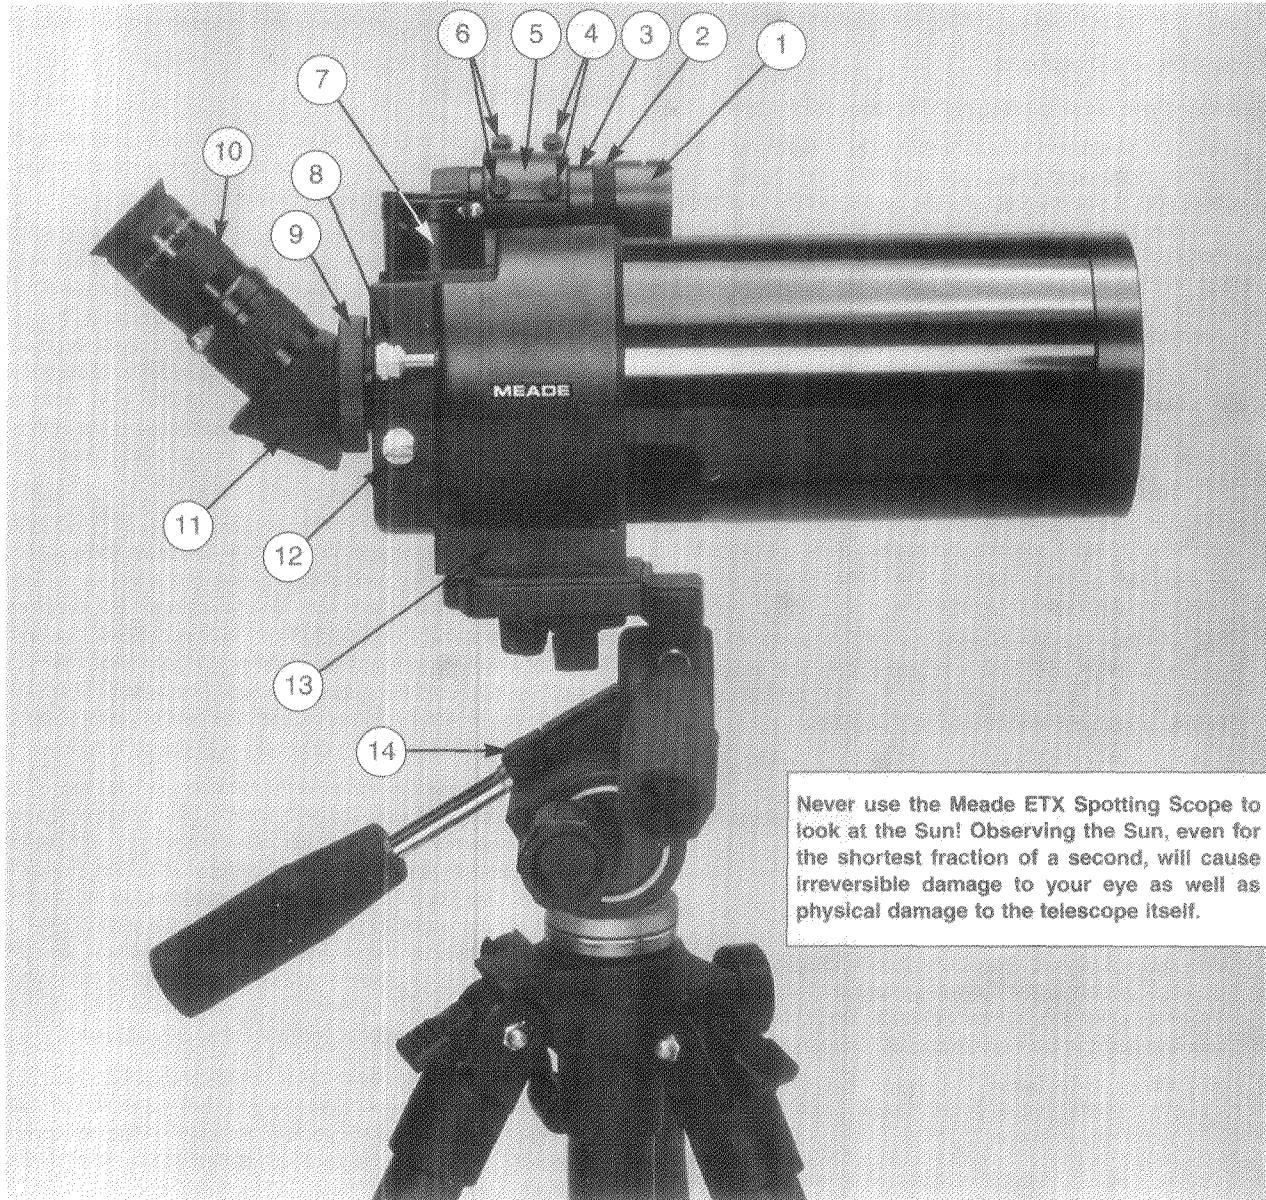

Fig. 19: The ETX Spotting Scope
1. Slide the viewfinder into its bracket (5), Fig. 19, with the rubber-eyecup-end of the viewfinder fitting first through the front end of the bracket. It may be necessary to slightly unthread the six alignment screws (4) and (6), Fig. 19, to fit the viewfinder into the bracket. With the viewfinder inside the bracket, tighten (*to a firm feel only*) the six alignment screws down against the viewfinder tube. Alignment of the viewfinder will be discussed in a later section of this manual.
2. Remove the #932 45° Erecting Prism from its packing box. After unthreading the Photo Port cover (6), Fig. 1, thread the knurled ring (9), Fig. 19, of the #932 Prism on to the Photo Port. "Firm feel" tightening is sufficient.
3. Remove the SP 26mm eyepiece (10), Fig. 19, from its plastic storage container and place it in the eyepiece-holder of the #932 Prism (11), Fig. 19, tightening the eyepiece-holder's thumbscrew to a firm feel.
2. **Flip-Mirror Orientation:** Confirm that the Flip-Mirror Control (12), Fig. 19, is in the "down" position so light is directed to the eyepiece.
Flip-Mirror Control: The ETX includes an internal optically flat mirror. The Flip-Mirror Control (12), Fig. 19, must be in the "down" position, as shown in Fig. 19, in order for light to reach the telescope's #932 Prism and eyepiece. Images seen through the #932 Prism will appear correctly oriented both up-and-down and left-for-right, just as they are normally seen without a telescope
Alternately, placing the Flip-Mirror Control in the "up" position (see Fig. 1, for example) diverts incoming light to a right-angle and permits observations with the eyepiece in the 90° eyepiece-holder (7), Fig. 19. If the eyepiece is moved to this position, re-focusing is required, and, while the image is correctly oriented up-and-down, it appears reversed left-for-right. The 90° observing position is particularly advantageous when observing objects high in the sky, such as aircraft, or astronomical objects, such as the Moon.
Focus Knob (8), Fig. 19: Turning this knob causes a finely-controlled internal motion of the telescope's primary mirror to achieve precise focus of the telescopic image. The ETX can be focused on objects from a distance of about 11.5 ft (3.5m) to infinity. Rotate the focus knob clockwise to focus on distant objects; rotate the focus knob counterclockwise to focus on near objects.
The ETX Spotting Scope should be firmly attached to a suitable photo-tripod, using the 1/4-20 tripod adapter block (13), Fig. 19, located on the underside of the telescope's tube assembly.
Important Note: *In the most discriminating applications, such as in observing delicate bird feather-structure at long distance, the ETX's internal, optically-flat mirror yields a higher-resolution image than is possible with any prism, including the #932 45° Erecting Prism. In these special cases ETX users are advised to observe with the eyepiece in the 90° eyepiece-holder (17), Fig. 19, with the Flip-Mirror Control in the "up" position. This admonition applies only to situations requiring extraordinarily high optical resolution and where the observer's eye is well-trained to observe very fine detail. In typical applications of the telescope terrestrially no image differences between the two eyepiece locations will generally be noted*
1. Remove the viewfinder from its mounting bracket (5), Fig. 19.
2. Loosen the knurled ring (2), Fig. 19, located near the viewfinder's objective (front) lens cell (1), Fig. 19. Unthread this ring (counterclockwise, as seen from the eyepiece-end of the viewfinder) by several full turns.
3. Focus of the viewfinder is accomplished by rotating the objective lens cell (1), Fig. 19, in one direction or the other, until distant objects viewed through the viewfinder appear sharp. One or two rotations of the viewfinder lens have a significant effect on image focus.
4. Once correct focus is reached, lock the focus in place by threading the knurled ring (2), Fig. 19, snugly up against the viewfinder's lens cell.
1. The viewfinder bracket (5), Fig. 19, includes six alignment screws. Turn *the 3 rear-most alignment screws* (6) so that the viewfinder tube is roughly centered within the viewfinder bracket, as viewed from the eyepiece-end of the telescope.
3. While looking through the viewfinder, turn one or more of *the 3 front-most viewfinder alignment screws* (4) until the crosshairs of the viewfinder point at precisely the same position as the main telescope.